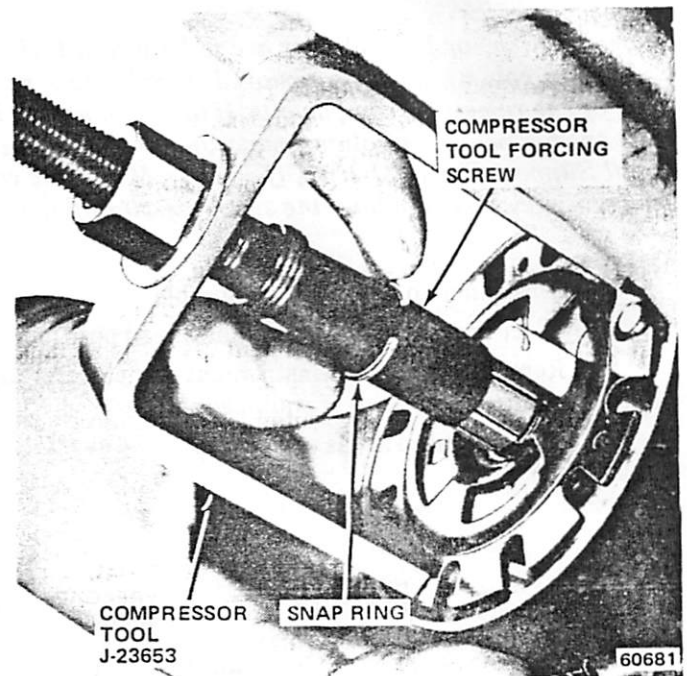

Fig. 2J-25 Steering Shaft Snap Ring Installation
(31) Connect column wiring harness connectors and install harness protector.
(32) Install steering wheel.
(33) Install and tighten steering wheel nut to 30 foot-pounds (41 N•m) torque.
**CAUTION:** Some steering shafts have metric size steering wheel nut threads. If a replacement nut is being installed, identify the shaft thread type before installation. Metric shafts have an identifying groove in the steering wheel locating splines (fig. 2J-2). American thread shafts do not have this groove.
(34) Install column bezel.
(35) Install and tighten column bracket-to-instrument panel bolts to 20 foot-pounds (27 N•m) torque.
(36) Tighten toe plate bolts to 10 foot-pounds (14 N•m) torque.
(37) Remove protective covering from column painted areas.
(38) Connect battery negative cable.